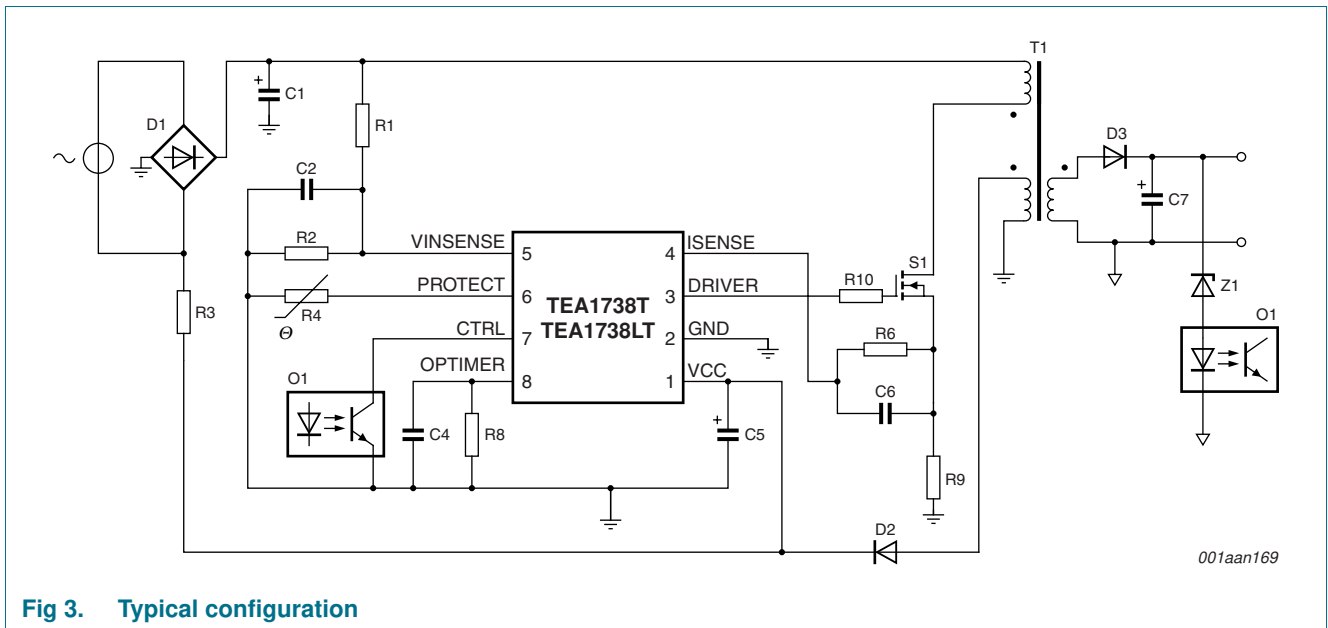
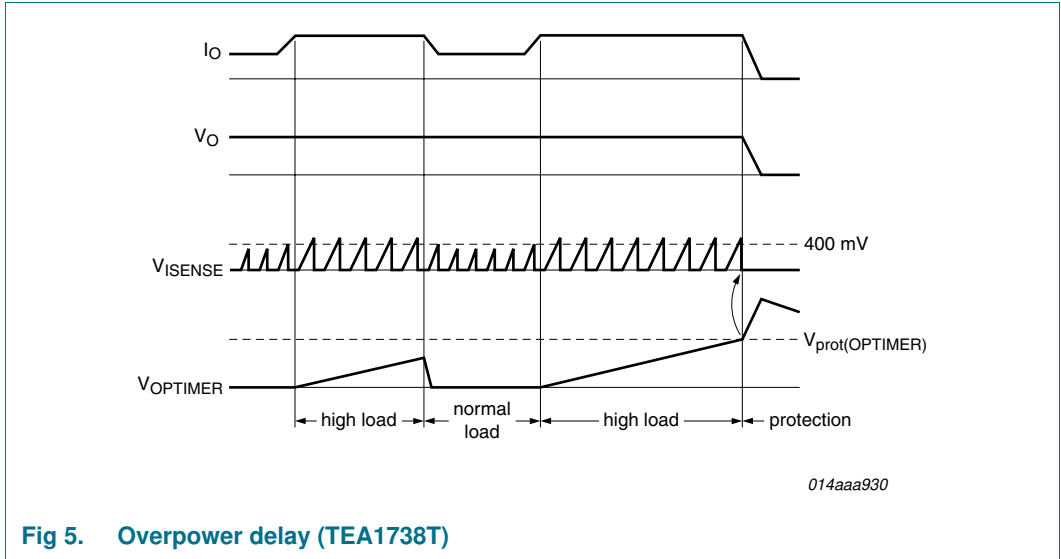

Fig 3. Typical configuration
Fig 5. Overpower delay (TEA1738T)
The TEA1738(L) contains a flyback circuit controller, a typical configuration of which is shown in Figure 3.
If the OPTIMER pin is connected to capacitor C4 (see Figure 3), a temporary overload situation is allowed. $V_{\text{ctrl}(I_{\text{peak}})}$ (see Figure 1) is set by pin CTRL. When $V_{\text{ctrl}(I_{\text{peak}})}$ is above 400 mV, the $I_{\text{IO}(\text{OPTIMER})}$ current (11 μA typical) is sourced from the OPTIMER pin. If the voltage on the OPTIMER pin reaches the $V_{\text{prot}(\text{OPTIMER})}$ voltage (2.5 V typical) the OverPower Protection (OPP) is triggered (see Figure 5).
The primary current is sensed by the ISENSE pin across external resistor R9 (see Figure 3) and compared with an internal control voltage. The internal control voltage is proportional to the CTRL pin voltage (see Figure 7).
A soft start is performed to prevent audible noise during start-up or a restart condition. Before the converter (re)starts, soft start capacitor C6 (see Figure 3) on the ISENSE pin is charged. When the converter (re)starts switching, the primary peak current slowly increases as the soft start capacitor discharges through the soft start resistor (R6, see Figure 3).